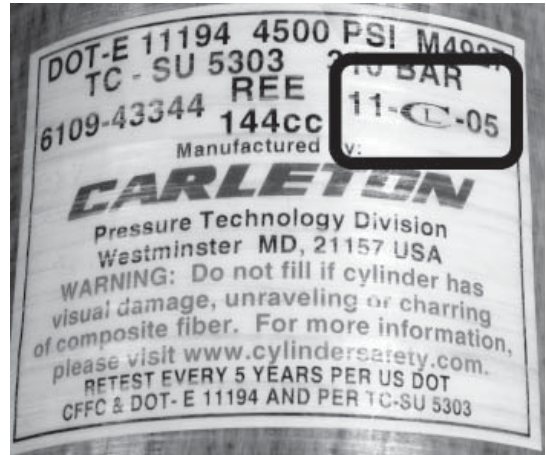
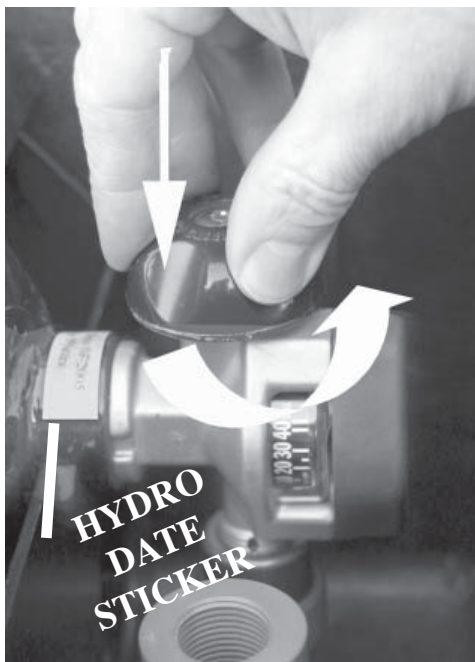

figure 2
figure 3
**3.0 PREPARATION FOR USE:** First unpack the unit and check for damage caused by shipping. Next, open the case.. Verify the hydrostatic test date of the supply cylinders, shown on a sticker prominently displayed on the cylinder (figure 2) and on the neck of supply cylinders (figure 3). This should also be written on the maintenance log, located on the lower right hand corner of the instruction sheet.
**△** 3.1 NOTE: THESE CYLINDERS (CYL1) REQUIRE HYDROSTATIC TESTING EVERY 5 YEARS, BY A DOT-APPROVED TEST FACILITY. CHECK DATE STICKER ON CYLINDER (figure 2), OR ON CYLINDER NECK. (figure 3)
5.2. Open the valves (VAL1) on the supply cylinders (figure 3). Valves lock in place when released. To release, push the knob while turning. Verify that the pressure in the supply cylinders is between 3000 and 4500psi .
6.1. Verify that the cylinders (CYL1) are within 5 years of the last hydrostatic test. Check the dated sticker placed prominently on each cylinder (figure 2). There is also a sticker on the cylinder neck, visible without removing MRS top plate (figure 3).
REFER TO FIGURE 3 (page 2) FOR A PICTURE OF THE VALVES